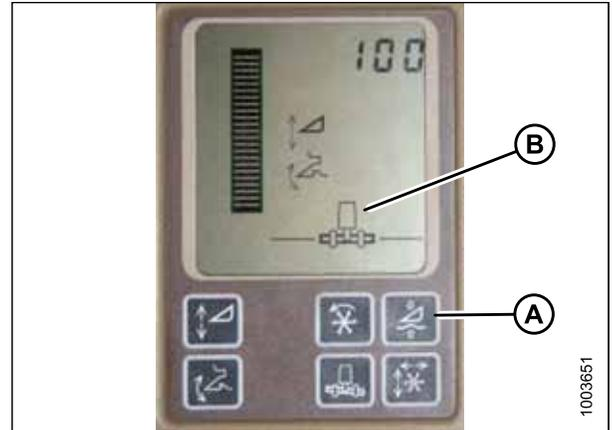

Figure 5.147: John Deere Combine Display
Do **NOT** use active header float function (A) in combination with MacDon auto header height control (AHHC)—the two systems will counteract one another. The header symbol (B) on display should **NOT** have a wavy line under it and should appear exactly as shown on Active Header Control Display in Figure 5.147, page 209.